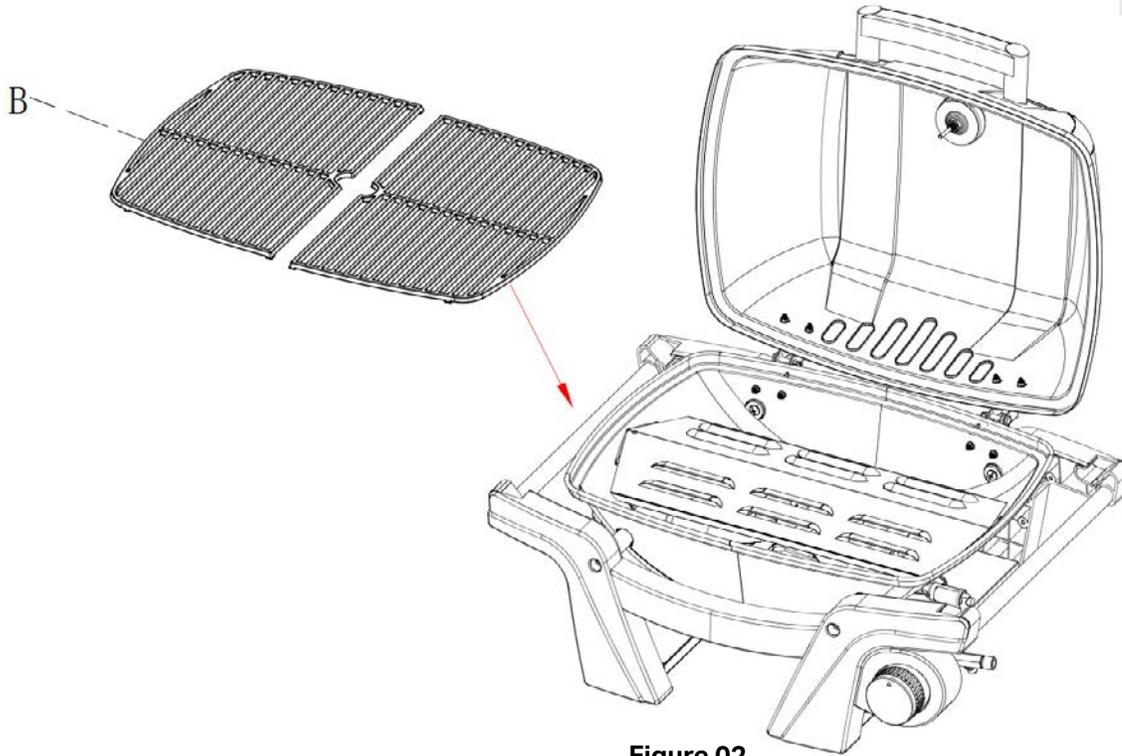

Figure 02.
Then put cooking grates (B) upon it as figure 02.